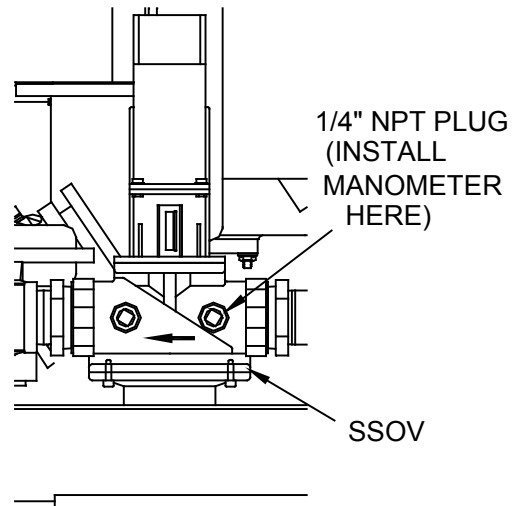

Figure 5.1
2. Install a 0-16" W.C. manometer in the gas pipe assembly below the low gas pressure switch. (See Fig. 5.1)